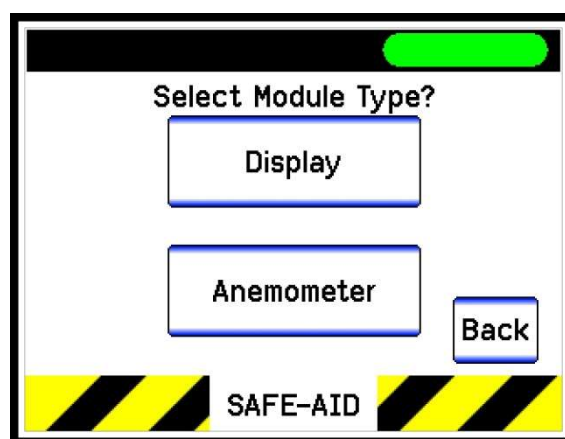

Figure 29
- Select **Anemometer** (**Figure 29**)